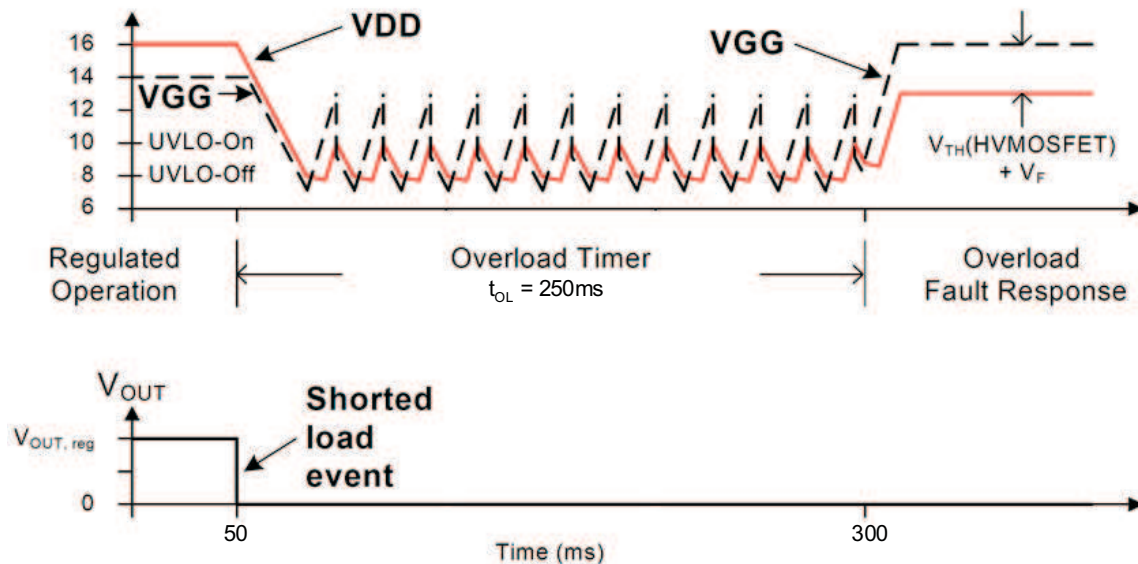

Figure 32. Overload Behavior with a Shorted Output
The UCC28610 reacts with the programmed overload response if the overload lasts longer than t_{OL} (nominally 250 ms). The overload fault responses are either (1) latch-off or (2) shutdown/retry after a retry delay of 750 ms. The overload response is programmed with the MOT pin. The forced DCM feature prevents transformer saturation and limits the average and RMS output currents of the secondary winding of the transformer. Even under short circuit load conditions, the output current of the transformer is limited to the levels that are shown in Equation 13, where N_{PS} is the primary-to-secondary turns ratio. Typical behavior for a shorted load is shown in Figure 32.